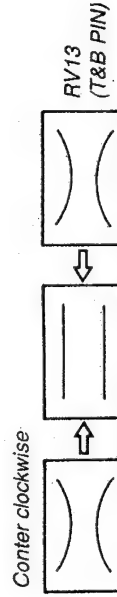

Fig. 29-8.
2. Adjust T&B pin distortion gain by turning DA board RV30 as shown in Fig. 29-8.